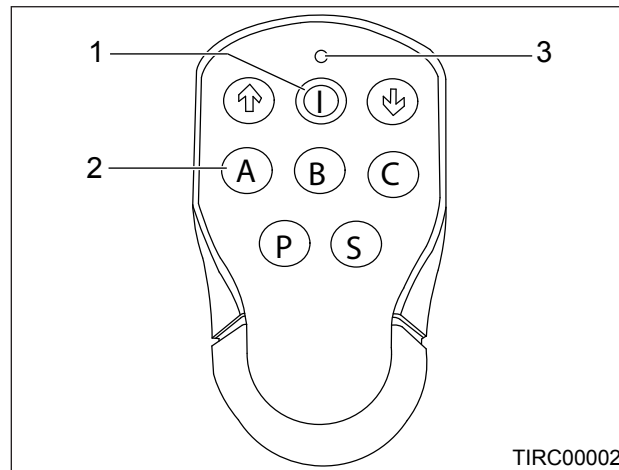

Figure 7.26 - RTG Transmitter
2. Press and hold the On / Off button (item 1) for 2 seconds to turn the transmitter ON, Ref: Figure 7.26.
» *Once successfully switched on the Status LED (item 3) will illuminate RED. Ref: Figure 7.26.*
3. To turn the feeder off using the remote, press button A (item 2) on the radio transmitter, Ref: Figure 7.26.
4. To restart the feeder press button A (item 2) on the radio transmitter, Ref: Figure 7.26.
6. To start the feeder ensure the Feeder Start / Stop Switch on the panel door is in the 'on' position, then to stop the feeder simply press the A button on the RTG transmitter as shown in Figure 7.26, to restart the feeder repress button A.